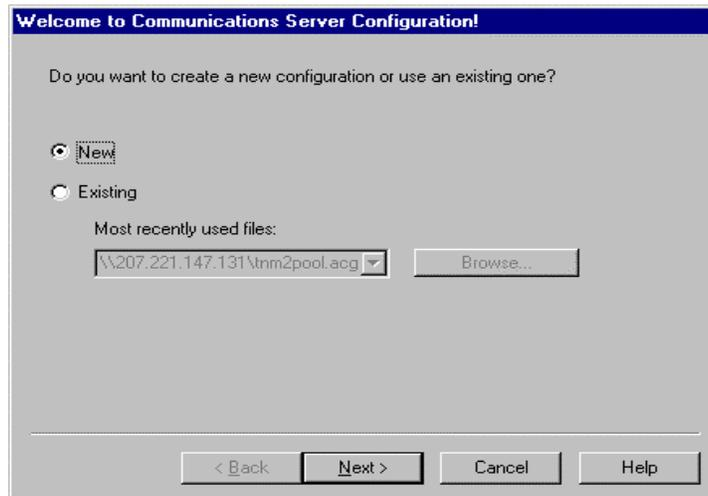
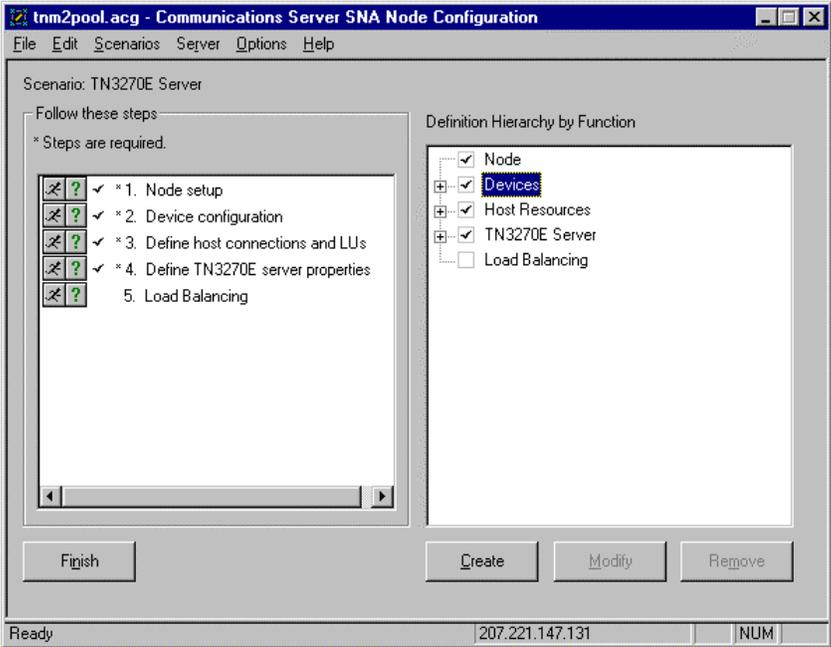
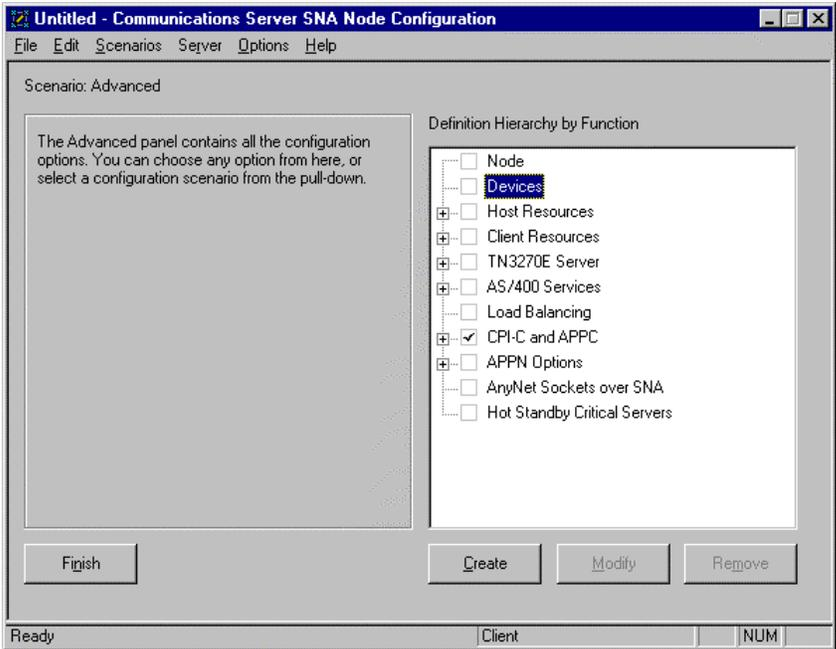
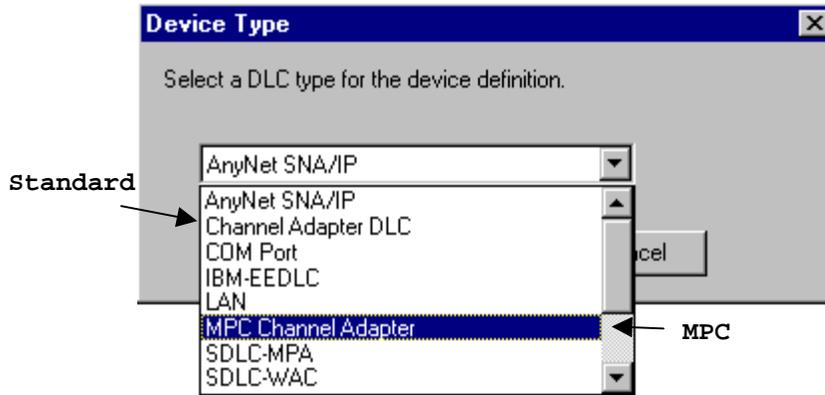

Figure 7-9. Automated Configuration Wizard
Figure 7-11. TN3270 Server Scenario
Figure 7-12. Advanced Configuration Scenario
Figure 7-13. Selecting a Channel DLC
1. When you start the SNA Node Configuration utility an automated procedure will prompt you whether to create a new configuration or use an existing one (Figure 7-9).
The configuration scenario will be displayed. Figure 7-11 shows an example of the TN3270 Server scenario.
New configurations using channel adapters cannot be defined by the automated procedure. If you are creating a new configuration click the “Cancel” button on the “Welcome to Communications Server Configuration!” dialog (Figure 7-9) to stop automated configuration. The Advanced scenario will display (Figure 7-12).
2. Once you have a configuration scenario displayed (Figure 7-11 or Figure 7-12) and the node defined you are ready to add the channel adapter to the configuration. Double-click “Devices” in the Definition Hierarchy to invoke device definition. You will be prompted for device type. For standard (non-MPC) connections select “Channel Adapter DLC” (Figure 7-13). For MPC connections select “MPC Channel Adapter”. Click OK.